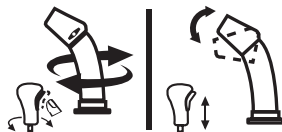

Figure 61
- To change the direction in which snow is thrown, squeeze the button on the control and rotate to the right or to the left (Figure 61).